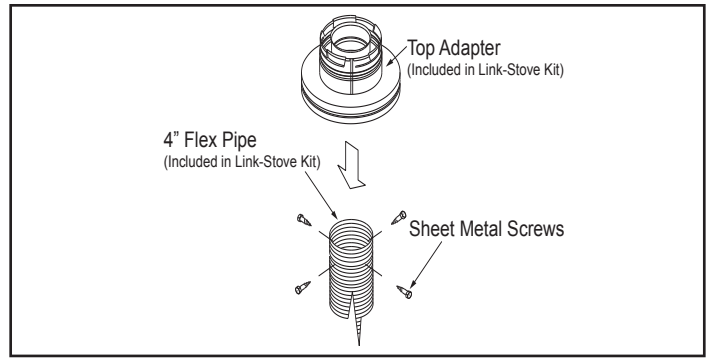

Figure 4.10
3. Connect the end of the flex pipe section to the underside of the top adaptor, using four sheet metal screws. See Figure 4.10.
5. Connect the flex liner to the top adapter using three sheet metal screws. See Figure 4.10.